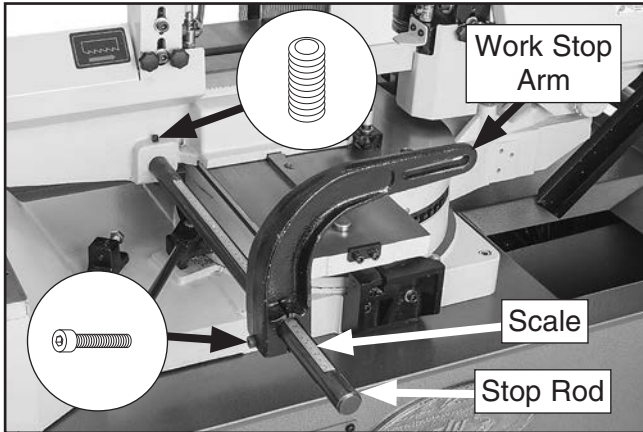

Figure 14. Work stop arm attached to stop rod.
- Slide work stop rod into hole in vise base so scale faces up and rod is flush with back of vise bed casting (see **Figures 14–15**), then tighten front and rear set screws.